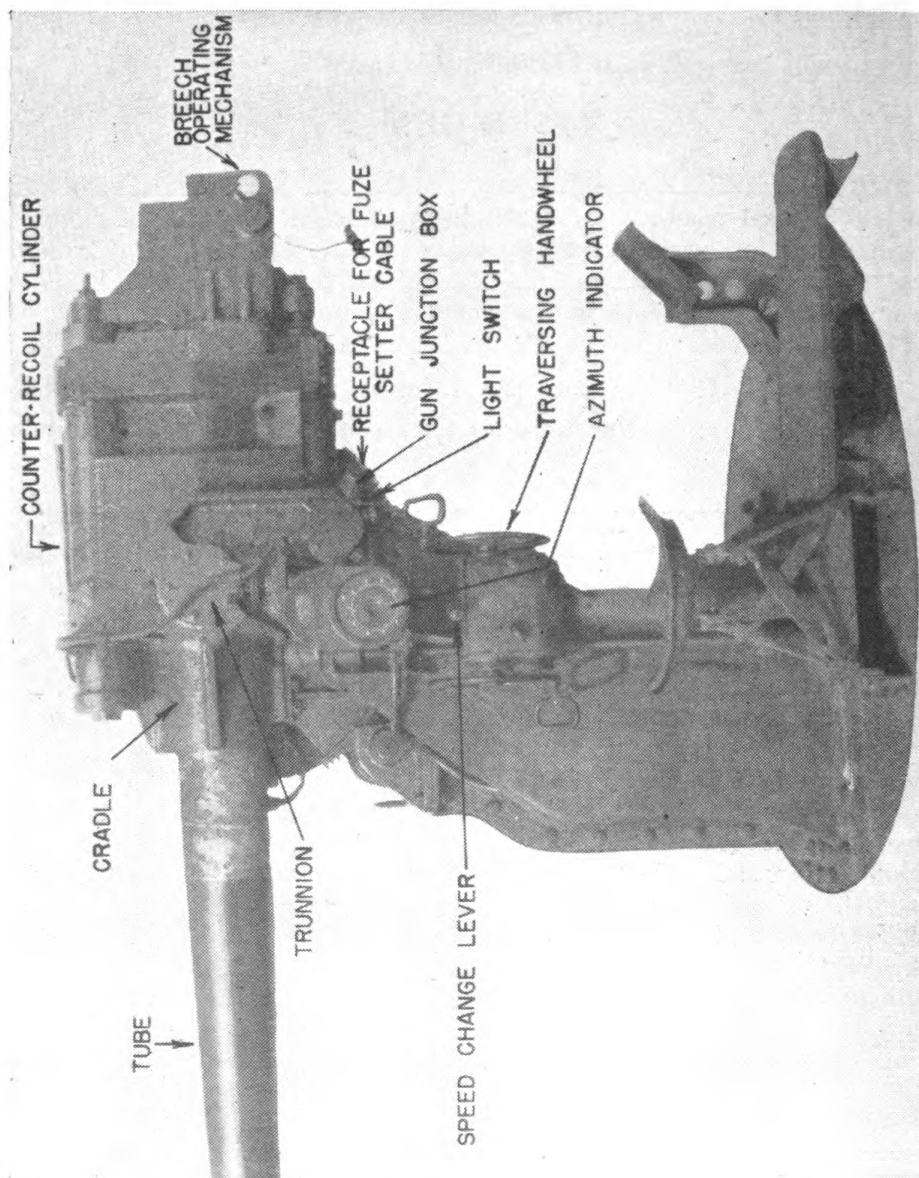

FIGURE 17.—3-inch gun, fixed mount (left side).
A. Practical demonstration on the gun. See also figures 17 and 18.